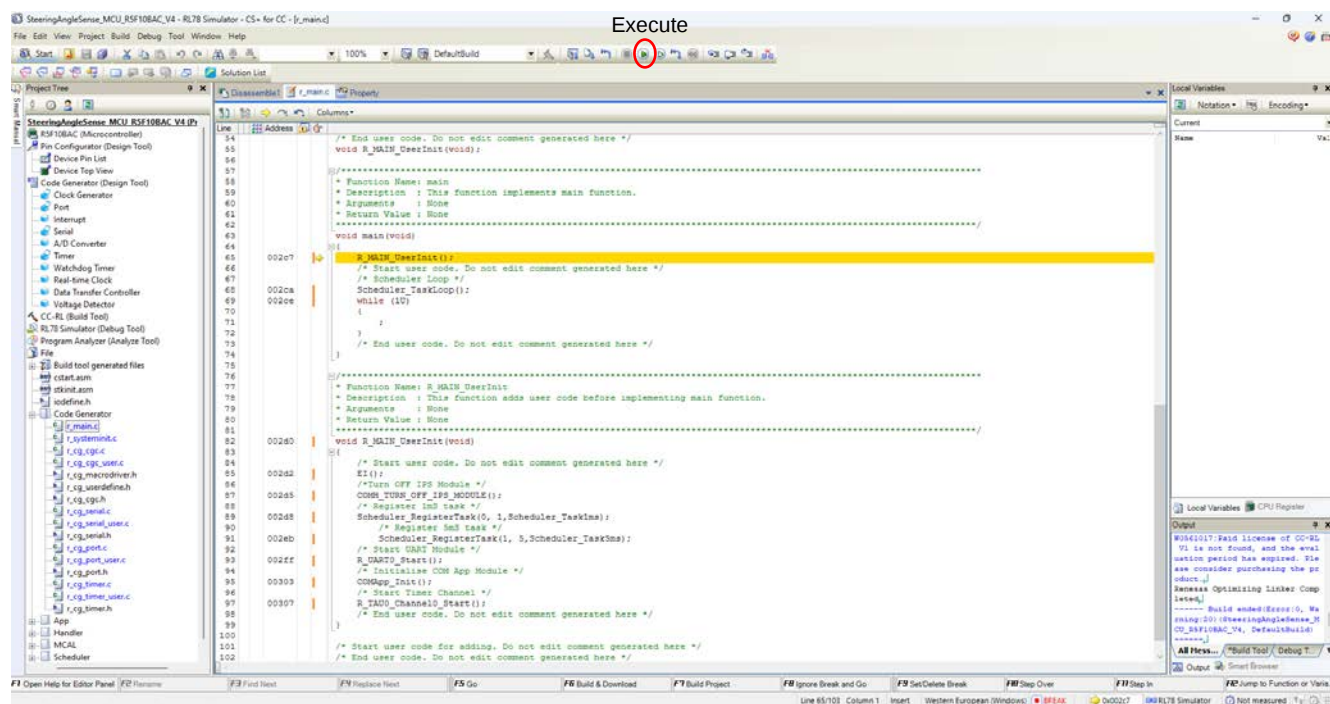

Figure 13: Execute the Program
4. After the download is completed, click on the Execute icon as highlighted in Figure 13.